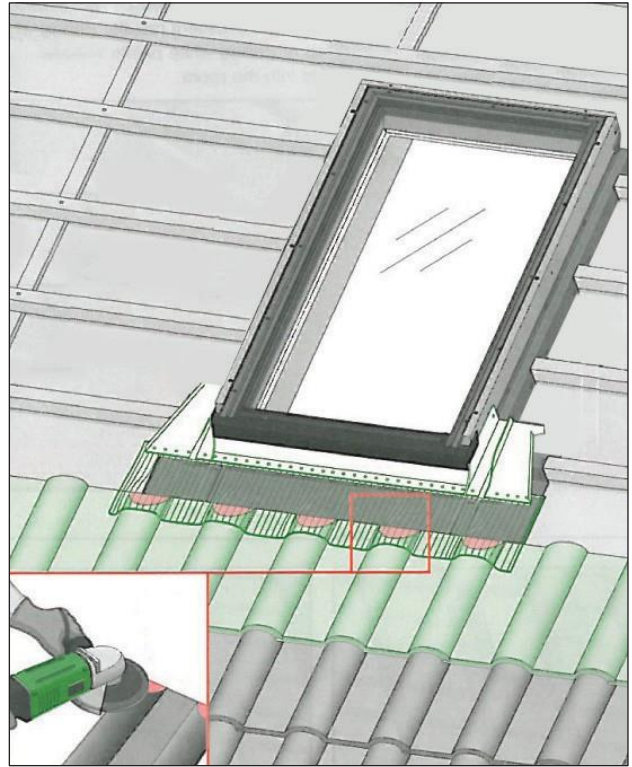

Fig 14
- 20) See Fig 14/15: The skylight must be installed above a complete row of tile. Make sure there is a gap of 9cm between skylight frame and the row of tiles. You will need to chamfer the top of the bottom row of tiles, where the mat laps over the tiles, to allow the mat to sit flat on the tiles. This is important to help prevent a water catchment forming that may cause leaking.